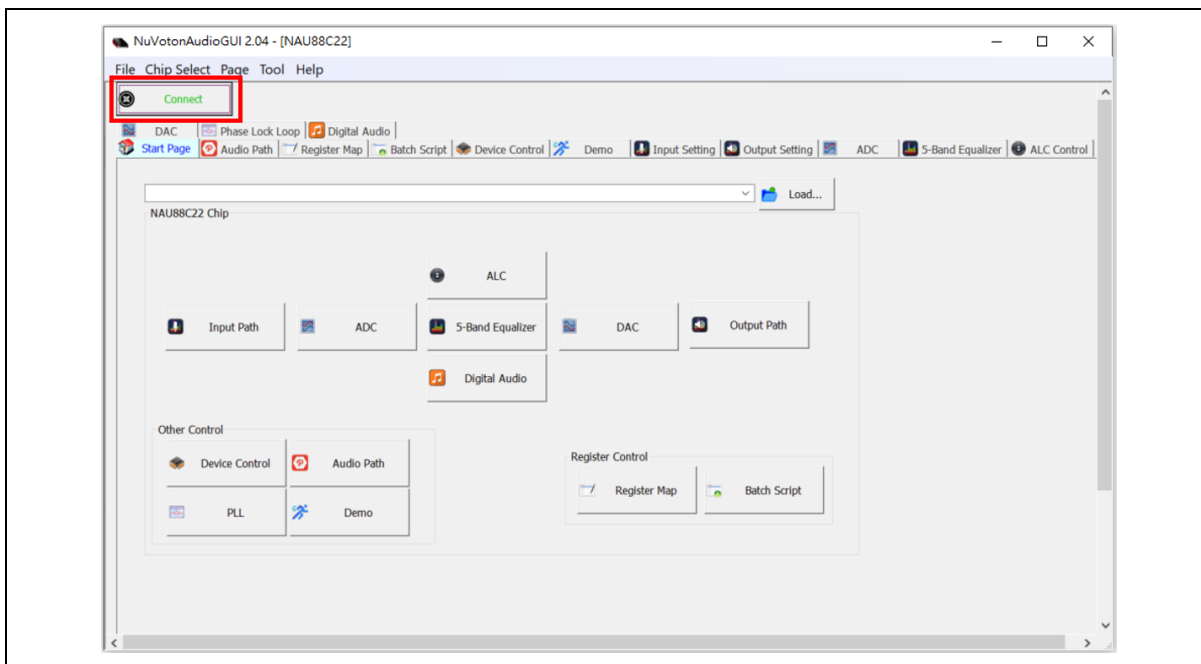

Figure 3-6 NuvotonAudioGUI Operating Step (3)
3. NuvotonAudioGUI will automatically read connection status. If the hardware and software are properly configured, a green [Connect] will appear on the upper left corner of the NuvotonAudioGUI window, as shown in Figure 3-6. Then users can issue I²C commands through NuvotonAudioGUI to control NL-NAU88C22.